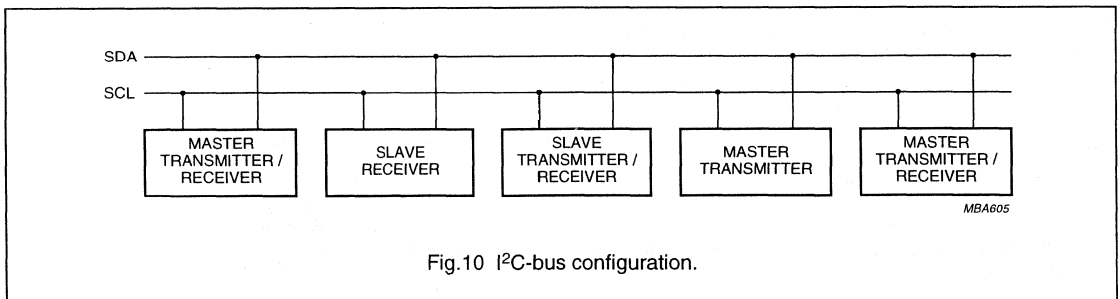

Fig.10 I²C-bus configuration.
7.12.1 CHARACTERISTICS OF THE I²C-BUS (see Fig.10)